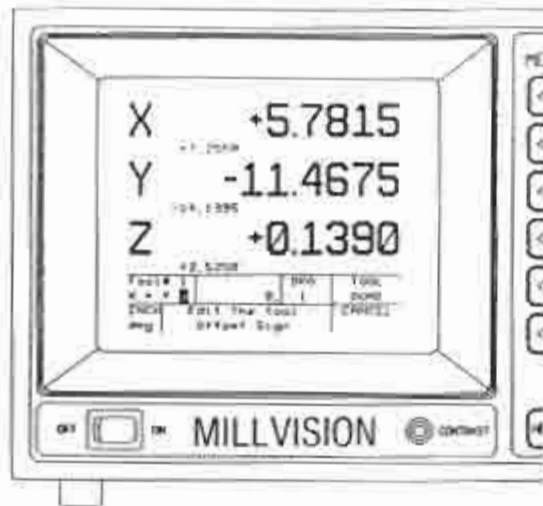

Figure 33. Tool Offset Signs.
- 5) Use the right arrow key to move to the Y-axis offset sign and repeat step 3 (Figure 33).